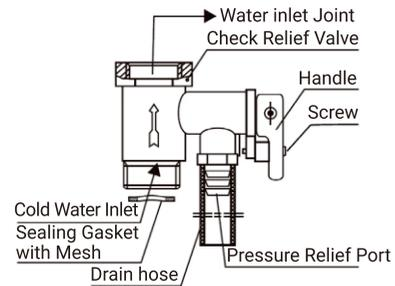

Figure 3
① The safety valve (factory original identification 0.8MPa) in the accessories shall be installed on the water inlet joint (as shown in Fig 3), and the raw material belt shall be wound to ensure sealing. The arrow direction shall be consistent with the water inlet flow direction of the electric water heater (as shown in Fig 3). The net sealing gasket shall be installed at the cold water inlet of the safety valve, and the drainage hose at the pressure relief outlet of the safety valve shall be installed to maintain a continuous downward inclination. It shall be installed in a frost free environment, and then extended to the ground leakage, kept connected with the atmosphere, and properly fixed to prevent scalding by discharging hot water or steam. The safety valve can prevent the tank pressure from exceeding the rated pressure by 0.1MPa. If the pressure in the tank is too high, the safety valve will automatically open and drain water from its pressure relief port to release the pressure.
- ③ Where water is used, it shall be able to drain smoothly.
- ④ Under normal use, the handle of the safety valve (Fig. 3) should be opened regularly to remove calcium carbonate deposition. The method is: pull the discharge handle upward to the horizontal position (if the handle is equipped with screws, remove the screws with a screwdriver before doing this action), and confirm whether the safety valve is blocked (whether there is water discharge). If it is blocked, please contact the maintenance department.